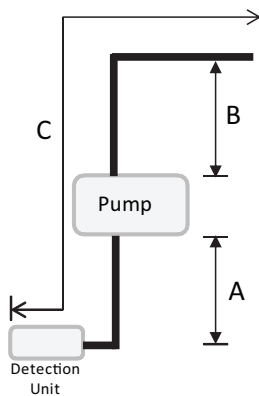

Fig. 2 – Maximum Lengths
The float switch in the detection unit also prevents overflow and can act as a safety device by shutting down the system. The detection unit comes with normally closed (NC) alarm contacts (user optional, but recommended). The normally closed alarm contact is a dry contact rated for 8 amps at 250 volts. In the event of a problem such as a clogged drain or pump discharge line, the alarm contact can be wired to shut down the entire system. The condensate pump provides 10 ft (3.0 m) maximum suction lift (A)-Fig. 2.